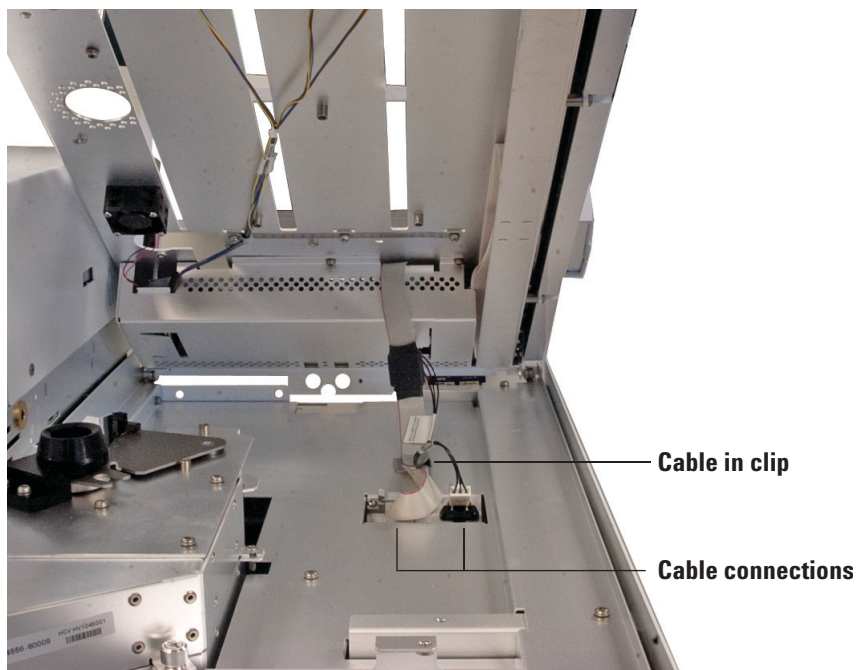

Figure 12 Tray cable connections
- 6 Lift the front of the tray assembly up and disconnect the two cable connections underneath the tray (Figure 12).